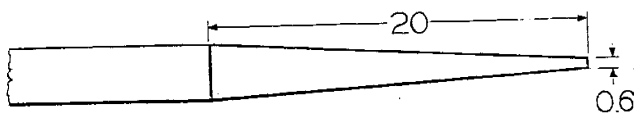

Fig. 27-12
7. Reverse steel and file tang which fits into handle as shown in figure 27-12 and 27-12P. Polish all sides of the stripping tool with emery buffs as described in Section 461 until you have a very high polish. It is not necessary to polish the tang.
10. File tang on the other end as in figure 27-12 and 27-12P.